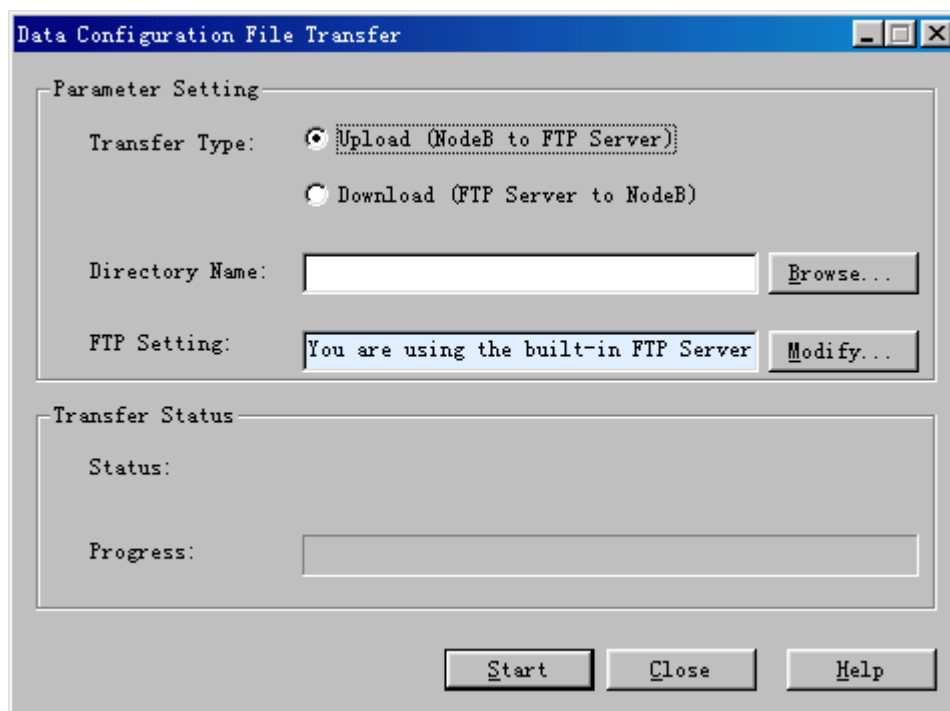

Figure 14-8 Data Configuration File Transfer dialog box
- 1) Choose **Maintenance Navigator -> Software Management**. Then double-click the **Data Configuration File Transfer** subnode. The **Data Configuration File Transfer** dialog box opens up as shown in Figure 14-8.